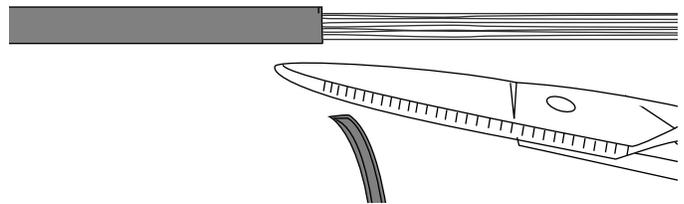

Figure 6
4.5 Remove the split length of sheath. Trim the jacket as close as possible to the marked strip length with scissors (Figure 6).